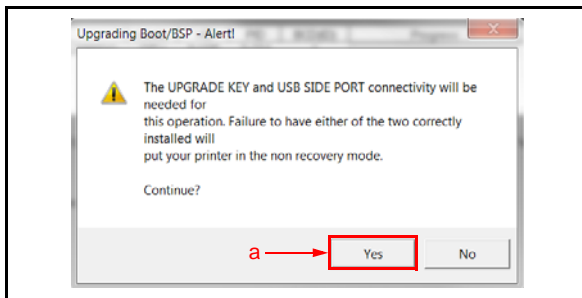

Figure 9 Upgrading Boot/BSP Alert! Screen
NOTE: If the “Upgrading Boot/BSP - Alert!” message appears (Figure 9), the Upgrade Key must be installed to complete the Upgrade. To do so:
- 3. Click Yes in the Upgrading Boot/BSP-Alert! dialog box (Figure 9 a).*